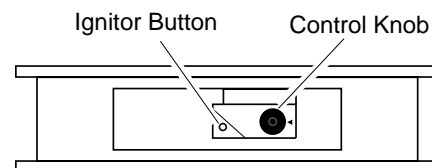

Figure 21 - Control Knob and Ignitor Button Location
4. Wait five (5) minutes to clear out any gas. Then smell for gas, including near the floor. If you smell gas, **STOP!** Follow "B" in the safety information, column 2. If you don't smell gas, go to the next step.
5. Turn control knob counterclockwise  to the PILOT position. Press in control knob for five (5) seconds (see Figure 21). **Note:** You may be running this heater for the first time after hooking up to gas supply. If so, the control knob may need to be pressed in for 30 seconds or less. This will allow air to bleed from the gas system.